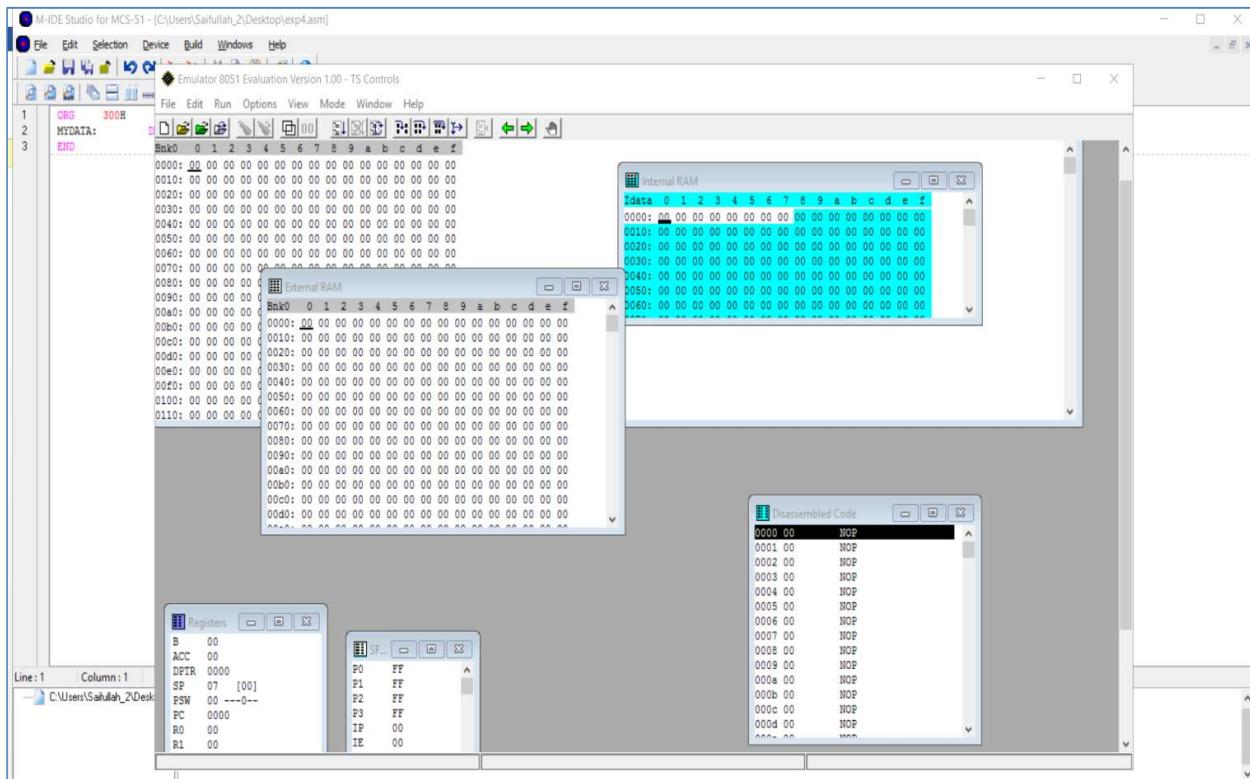

Figure 4.4: New window opening after building and simulating the Code in MIDE-51
- e. If there will be 0 error(s) following window will open as shown in Figure 4.4.